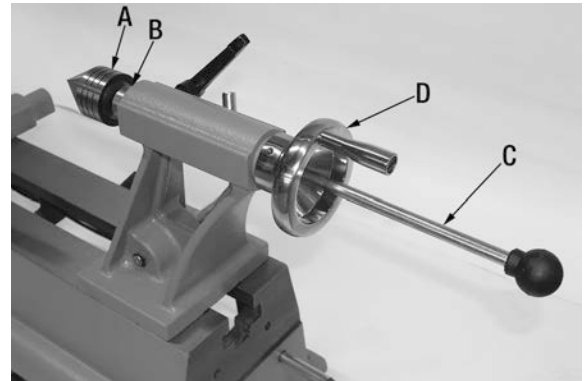

FIGURE 12
1. The live centre (A) Fig.12 gets installed inside the tailstock quill (B), simply push the live centre quickly and firmly into the quill. A properly installed live centre will not pull out by hand.
2. To remove the live centre from the tailstock quill, insert the knock-out rod (C) into the opposite end of the tailstock quill (through the centre of the handwheel) and knock the live centre out of the quill or turn the handwheel (D) counterclockwise until the tailstock quill bottoms out causing the live centre to be forced out of the quill.